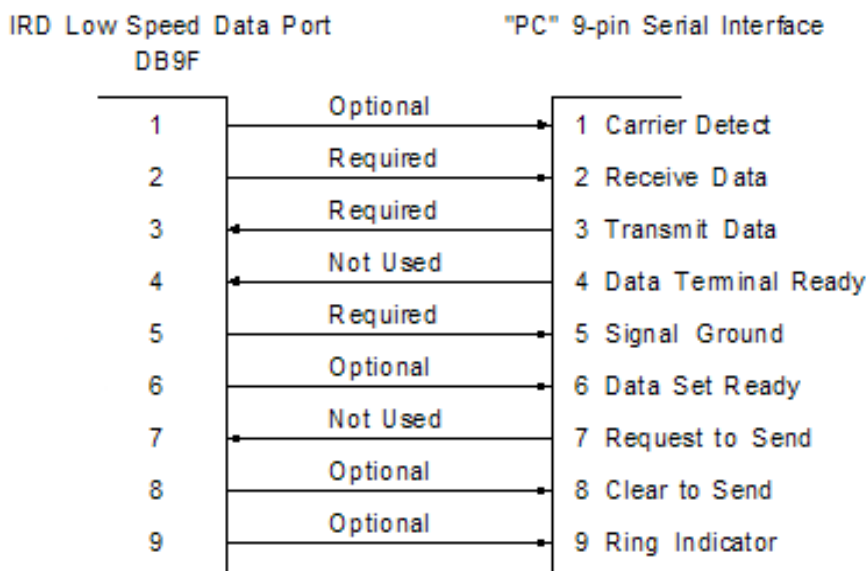
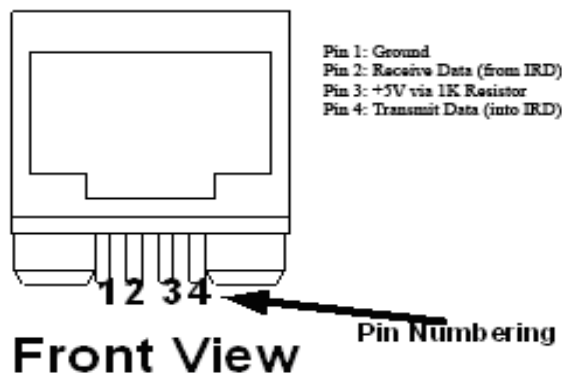

Figure 1 Low-Speed Data Port Pin Assignment Diagram
Figure 2 Orientation of the RJ22 (4 way/4 position) Jack
The STB connector type will be a standard DB-9F or RJ22 (4 way/4 position jack). The pins for the DB-9F are as shown in Figure 1. The STB will use three (3) lines (L2-Rx, L3-Tx and L5-Grnd) for bi-directional full-duplex communications. Figure 2 shows the orientation of the RJ22 (4 way/4 position jack).